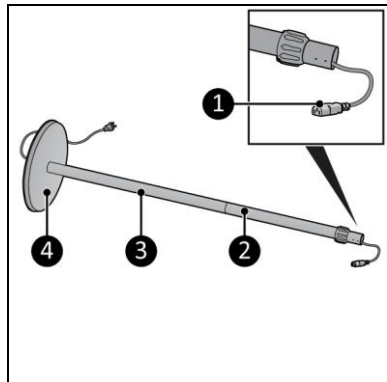

Figure 4
3. Place the female plug (Figure 4, pos. 1) of the power cable through the base (Figure 4, pos. 4), the bottom tube (Figure 4, pos. 3) and the adjustable tube (Figure 4, pos. 2).